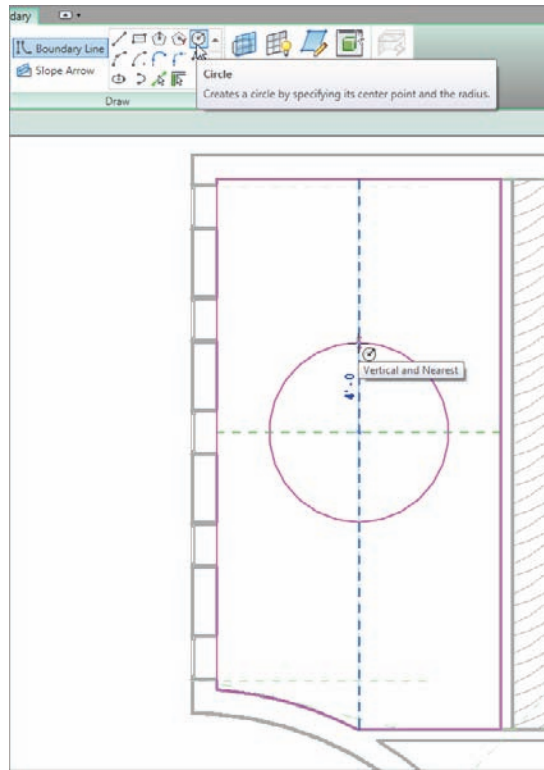

FIGURE 9.25 Sketching a 4'-0" (1200mm) radius circle
8. On the Draw panel, click the Boundary Line button. You will see an expanded list of sketch choices. Pick the Circle choice, as shown in Figure 9.25.
9. Draw a 4'-0" (1200mm) radius circle at the intersection of the reference planes (see Figure 9.25).